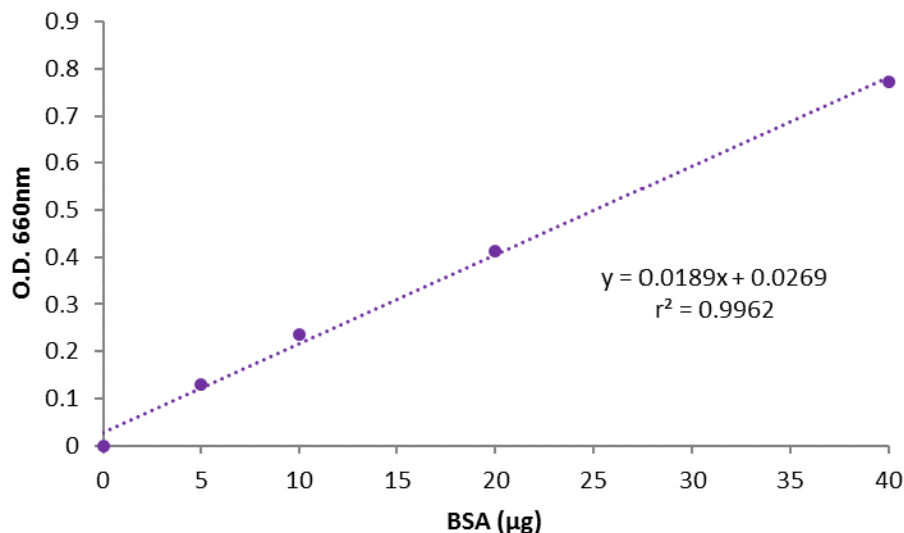

Figure 2. Typical standard curve for Lowry assay
4. Standard curve example for microplate assay procedure is shown in Figure 2.